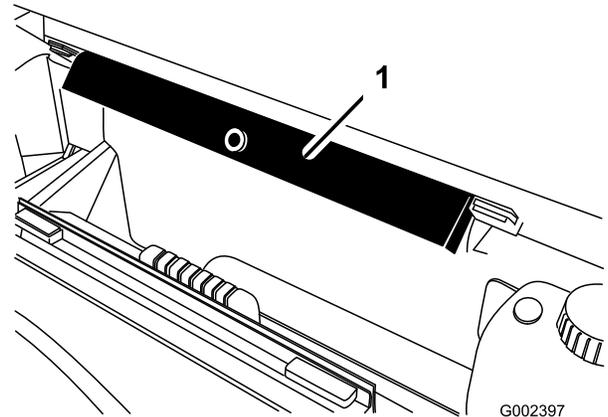

Figure 32
2. Remove the bed support from the storage brackets on back of the ROPS panel (Figure 32).